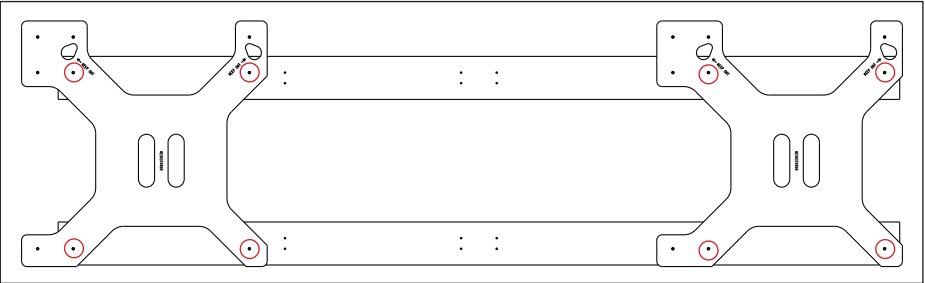

Figure 4: Install Second Wall Tube
3. Install the second wall tube above the first tube while referring to **Figure 4**:
- c. Drill four 17/64" (~0.266") clearance holes through the front and rear walls of the tube at all stud locations on the tube. Refer to **Figure 4**.